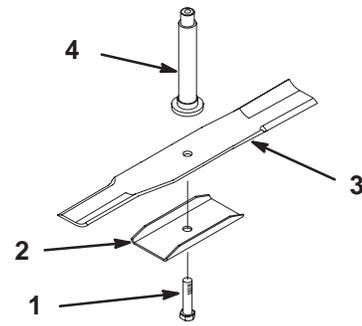

Figure 29
2. Remove the bolt, stiffener, and blade (Fig. 29).
- Install the blade, stiffener, and the blade bolt (Fig. 29).